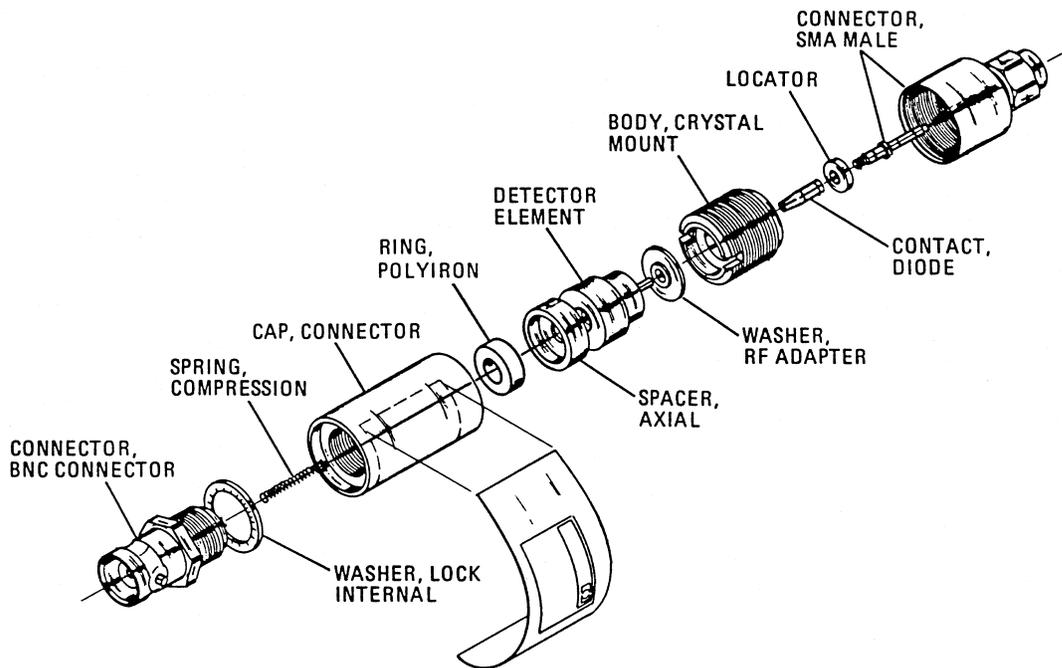

Figure 2 8472B Crystal Detector Assembly
Parts mentioned in the following procedure are identified in Figures 2 and 3 on page 10.
4. Install the RF adapter washer, polyiron ring, axial spacer, and new detector element. Refer to Figures 2 and 3 for the proper orientation for the internal components.